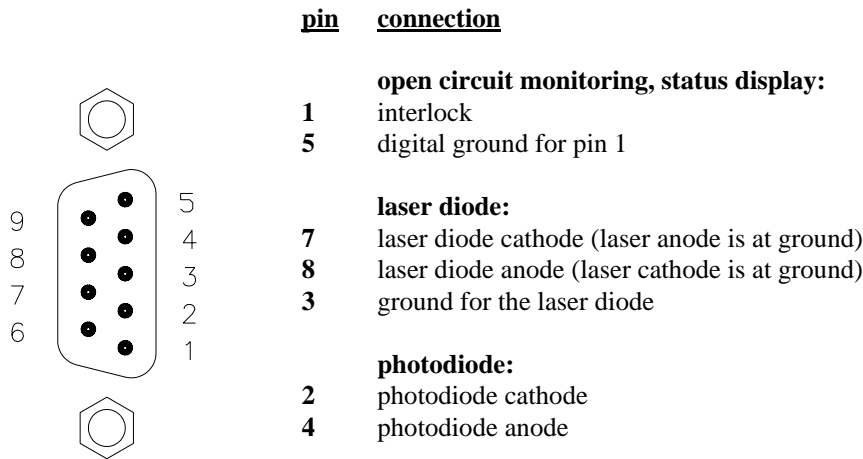

Fig. 2.3 Pin assignment of jack "LD OUTPUT"
If other laser diode mounts are used, connect the laser diode and, if provided, the photodiode with shielded cables to "LD OUTPUT" (5) according to the pin assignment shown in Fig 2.3.